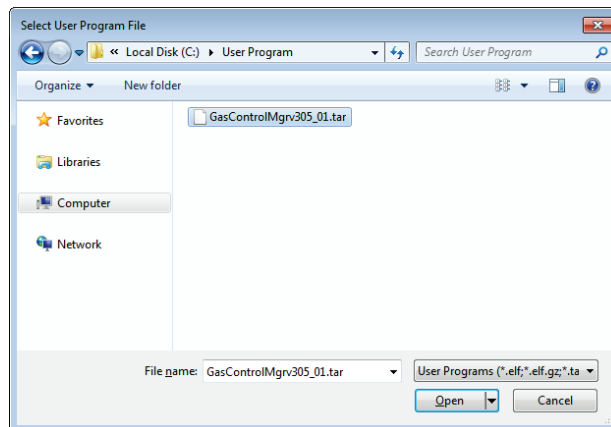

Figure 4. Select User Program File
4. Click **Browse** in the Download User Program File frame. The Select User Program File screen displays (see *Figure 4*).
5. Select the path and user program file to download from the CD-ROM. (Program files are typically located in the Program Files folder on the CD-ROM). As *Figure 4* shows, the screen lists all valid user program files with the .TAR extension: